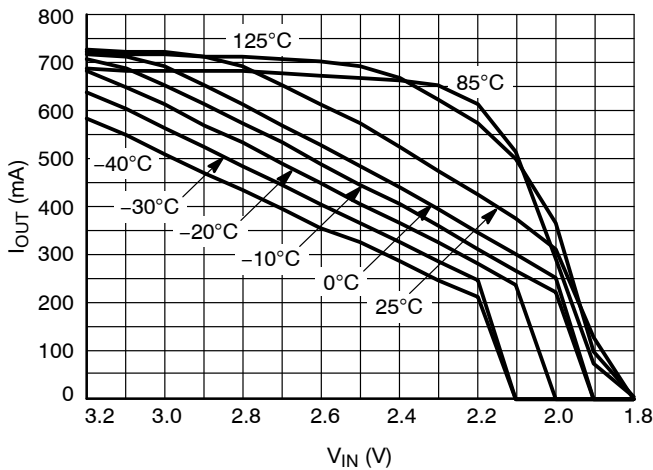

Figure 21. Output Current Capability for the 1.8 V Version
18. For output current capability for  $T_A < 0$  °C, please refer to Figure 21.